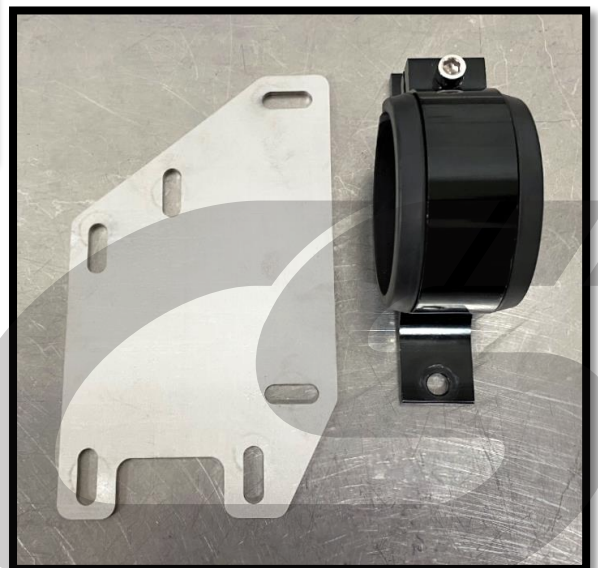

Figure 10d
- e) Locate the pump mounting bracket and pump mounting plate. Orient them as shown in **Figure 10d**.